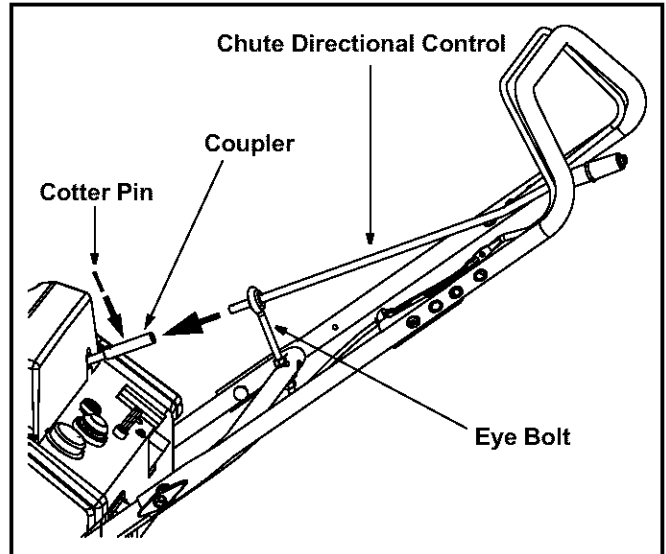

Figure 5
- Insert the chute directional control through the eyebolt and into the coupler found in the top right area of the snow thrower's shroud. See Figure 5.
- Rotate the chute directional control to align the hole in the coupler with the hole in the chute directional control, and insert the cotter pin through both holes. Bend the ends of cotter pin in opposite directions to secure it in place. See Figure 5.